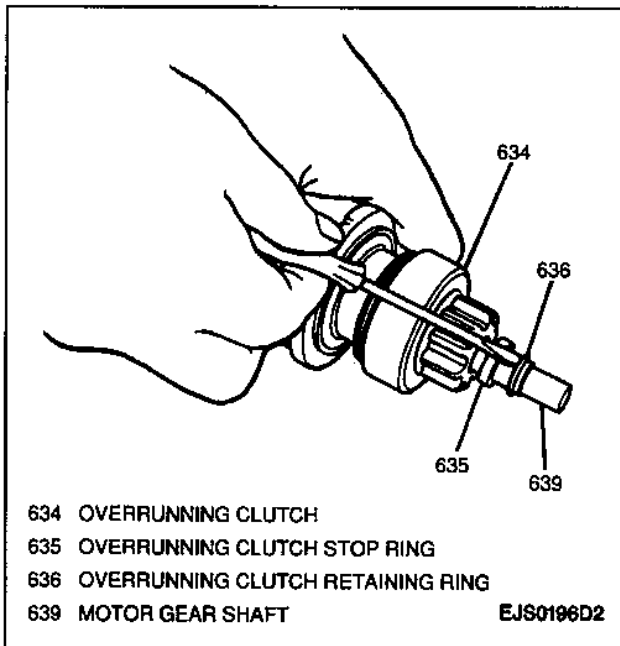

Figure 19—Removing Overrunning Clutch
8. Overrunning clutch retaining ring, stop ring and overrunning clutch from motor gear shaft (Figure 19).